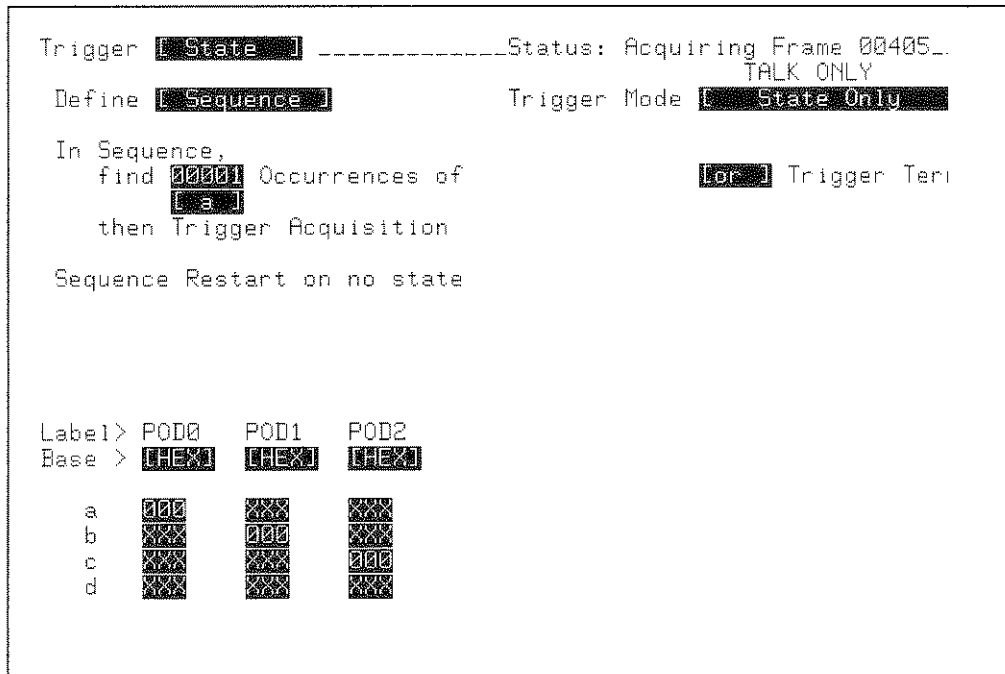

Figure 9-18. TRIGGER State / Define [Sequence] Menu
5. Configure the TRIGGER State / Define [Sequence] menu as shown in figure 9-18.
17. Repeat steps 12 through 15 for POD 1, with the following change: in step 5, reconfigure the menu in figure 9-18 with "Occurrences of [b]".
19. Repeat steps 12 through 15 for POD 2, with the following change: in step 5, reconfigure the menu in figure 9-18 with "Occurrences of [c]".